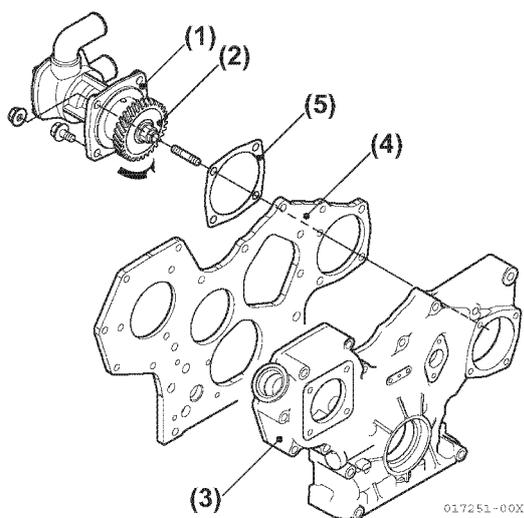

**Figure 5-171**
44. Install the filter bracket and gasket on the cylinder block (Figure 5-171).
- 45. Install the lubricating oil cooler to the filter bracket. Tighten the lubricating oil cooler nut (Figure 5-171).
- 46. Install the freshwater pipes; (cylinder block, lubricating oil cooler, lubricating oil cooler, freshwater pump (Figure 5-171).
- 47. Install the lubricating oil filter with the filter case remover tool (Figure 5-171).